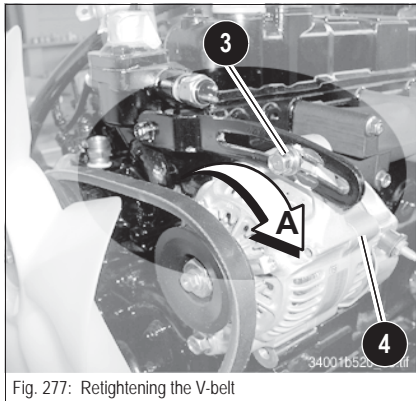

Fig. 277: Retightening the V-belt
- ☞ Use a suitable tool to push the alternator in the direction of arrow **A** until reaching the correct V-belt tension Fig. 277.